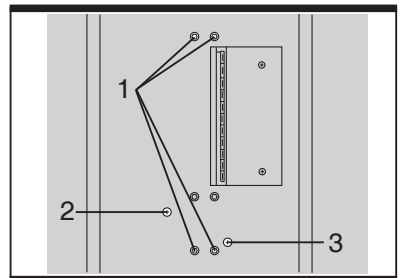

Fig 14
- 8) If the front and rear clearance are not identical, remove the mitre gauge, loosen four screws (1) and carefully grasp the saw blade. Make necessary correction until measurements taken at the front and rear are identical. Tighten the four screws (1) (See fig. 14).
- 4) If the saw blade is not at 90°, loosen the saw blade tilt lock handle. Adjust the screws (2) a few turns and move the saw blade tilting mechanism until the blade is at 90° to the table (See fig. 14).
- 4) If the saw blade is not at 45°, loosen the saw blade tilt lock handle. Adjust the screws (3) a few turns and move the saw blade tilting mechanism until the blade is at 45° to the table (See fig. 14).